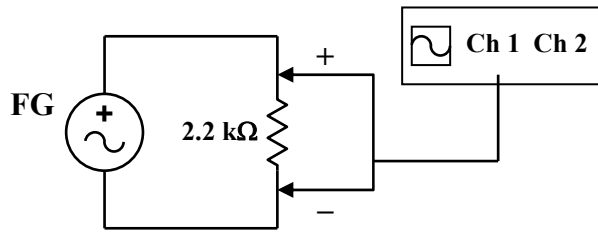

Figure 9.3a
12. Connect the FG output across the $2.2 k\Omega$ resistor (**Figure 9.3a**). Monitor the voltage with the oscilloscope. Record V_{p-p} in the title of **Table 9-5**.